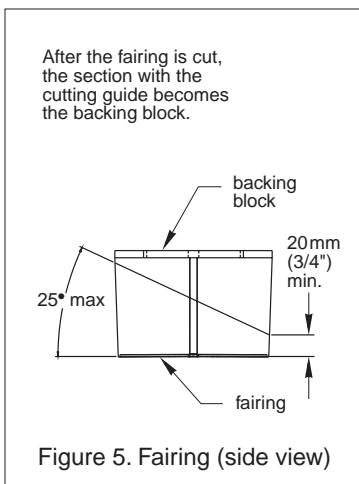

Figure 5. Fairing (side view)
2. Measure the deadrise angle of the hull at the selected location using a digital level, or bubble level and protractor (see Figure 5).
5. Adjust the fence so the fairing will be cut in about two equal parts. The fairing *must* be a minimum of 20mm (3/4") at its thinnest dimension (see Figure 5).